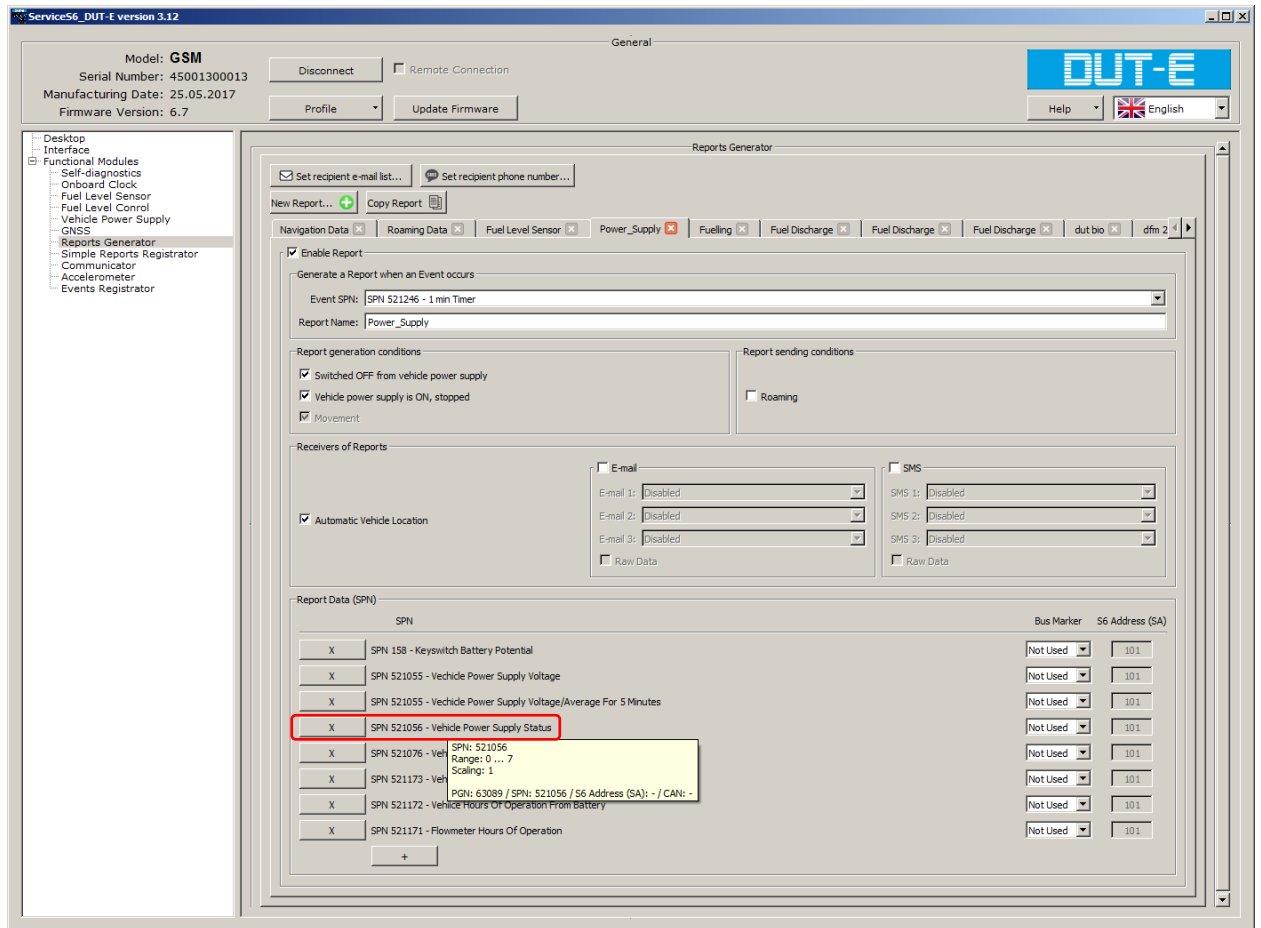

Figure 3 – Settings window of Reports Generator FM in Service S6 DUT-E software
3) In Reports Generator FM configure Vehicle power supply status (SPN 521056). IT is recommended to send this message on "Timer 1 min" Report (SPN 521246) (see figure 3).